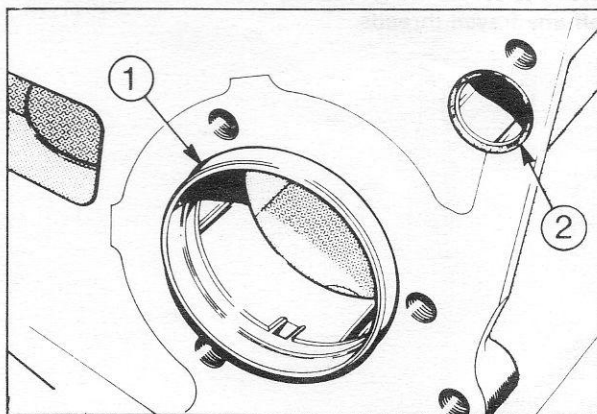

**Fig. 34 - Measuring Crankshaft End-Play**
24. Check the crankshaft end play. Pry the crankshaft forward to take up end play in one direction, and insert feeler blades between the crankshaft thrust washer and the crankshaft to check that the end play is within the specified limits (Fig. 34).